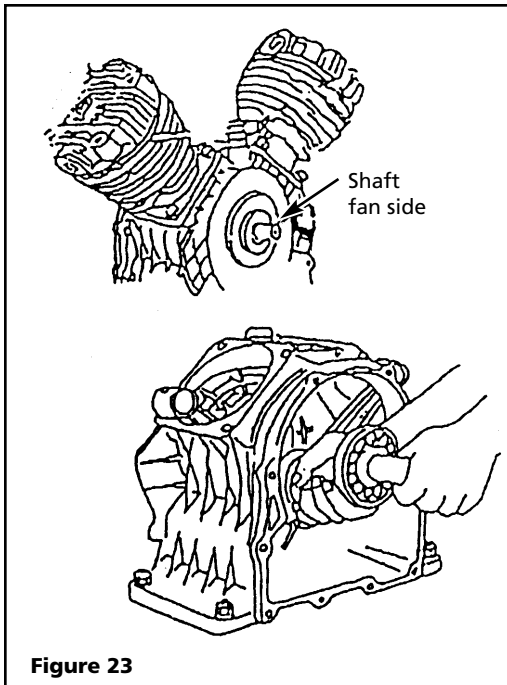

Figure 23
3. Lightly tap shaft fan side with non-shock hammer (avoid metal hammer) and remove crankshaft. After bearing leaves the crankcase bore, pull connecting rod out as illustrated and remove it from crankcase (See Figure 23).